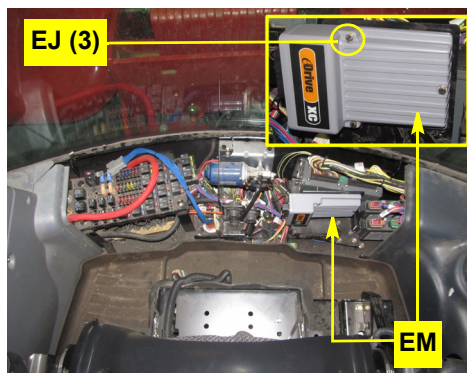

Figure 2b: ECU installed
- b. Using bolts **EJ** into the welded nuts on the mounting, mount ECU **EM** with its connector socket to the right (left as viewed - Figure 2b and inset).